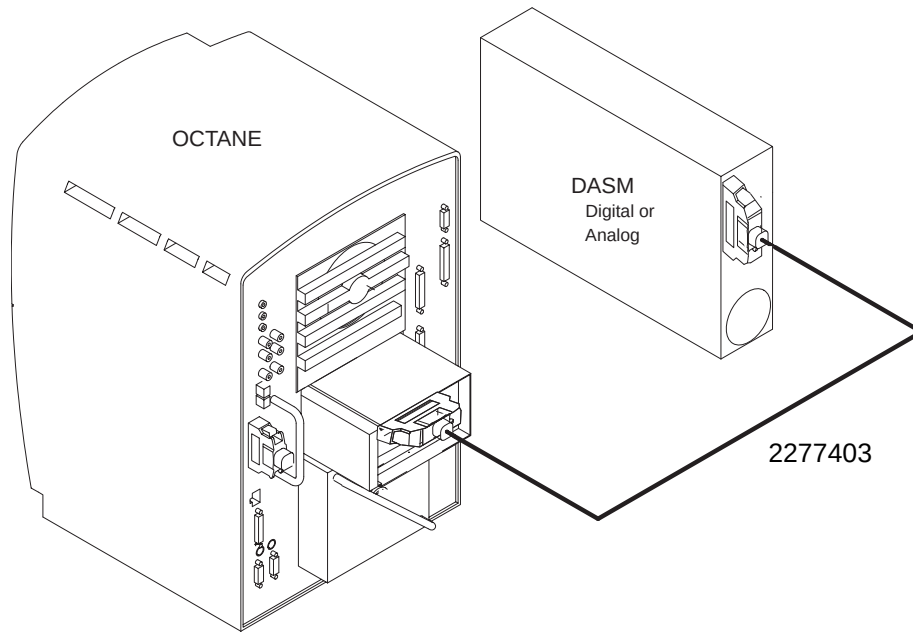

Figure 2-7 SCSI Cable Configuration with DASM
- 5.) Refer to Figure 2-7. Attach the SCSI cable (2277403) supplied with DASM kit to the back of the DASM.